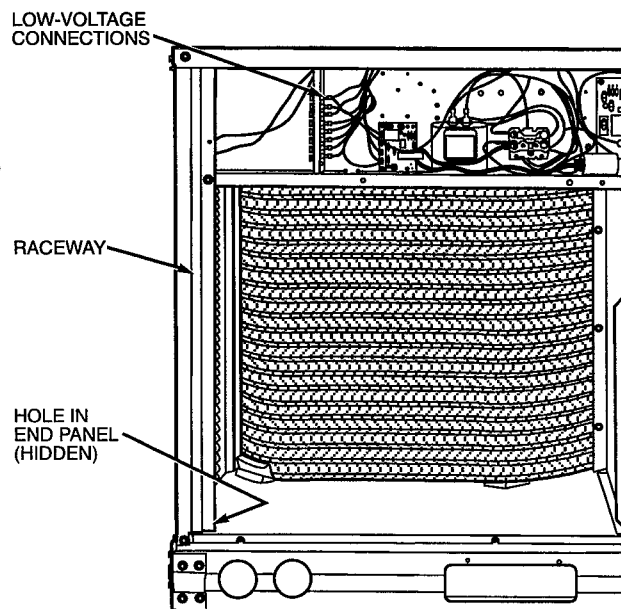

Fig. 9 — Field Control Wiring Raceway
3. Feed wire through the raceway built into the corner post to the 24-v barrier located on the left side of the control box. See Fig. 9. The raceway provides the UL-required clearance between the high- and low-voltage wiring.